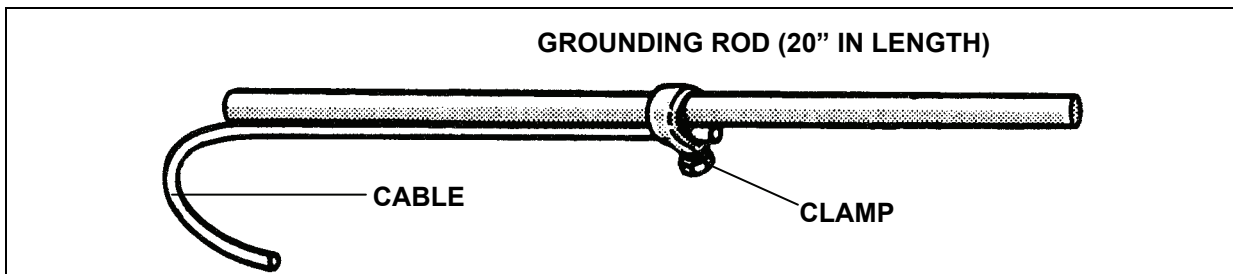

Figure D-1. Cable Clamped to Rod
- Using the conductor splice, clamp one end of the cable to the 20-inch section of rod approximately 11 inches from the end of the rod (Figure D-1).